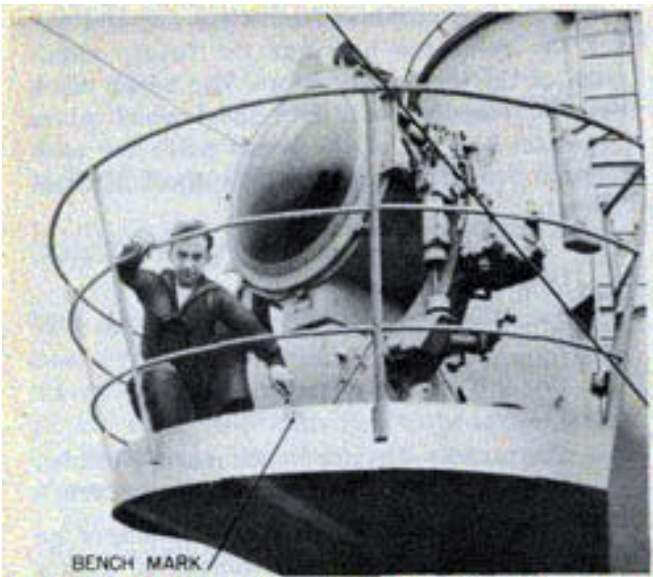

Figure 85-Typical bench mark location on searchlight platform.
2. Rotate the training handwheel of the director until the ring dials of the bearing receiver or the middle dial of the main dial group "A" indicate the bearing of the bench mark. See figure 85.